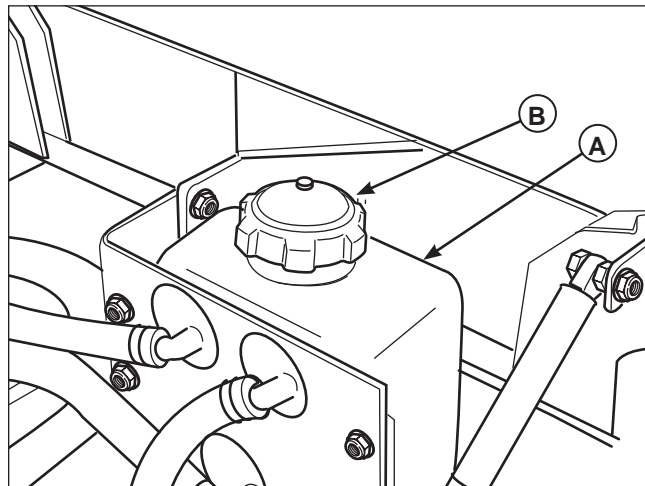

Figure 13. Checking Hydraulic Oil Level
2. Look at the hydraulic oil reservoir (A, Figure 13) and observe the oil level. When cold, the oil level should be approximately 1/2" (1,3cm) below the MAX. HOT OIL LEVEL line. The oil level should never be above the MAX. HOT OIL LEVEL line.
3. If necessary, remove the reservoir cap (B, Figure 13) and add either Mobil 1, 15W-50 synthetic oil or Castrol Syntec 5W-50 oil. **DO NOT** use conventional oils. Make sure area around the fill neck of the reservoir is free of dust, dirt, or other debris.